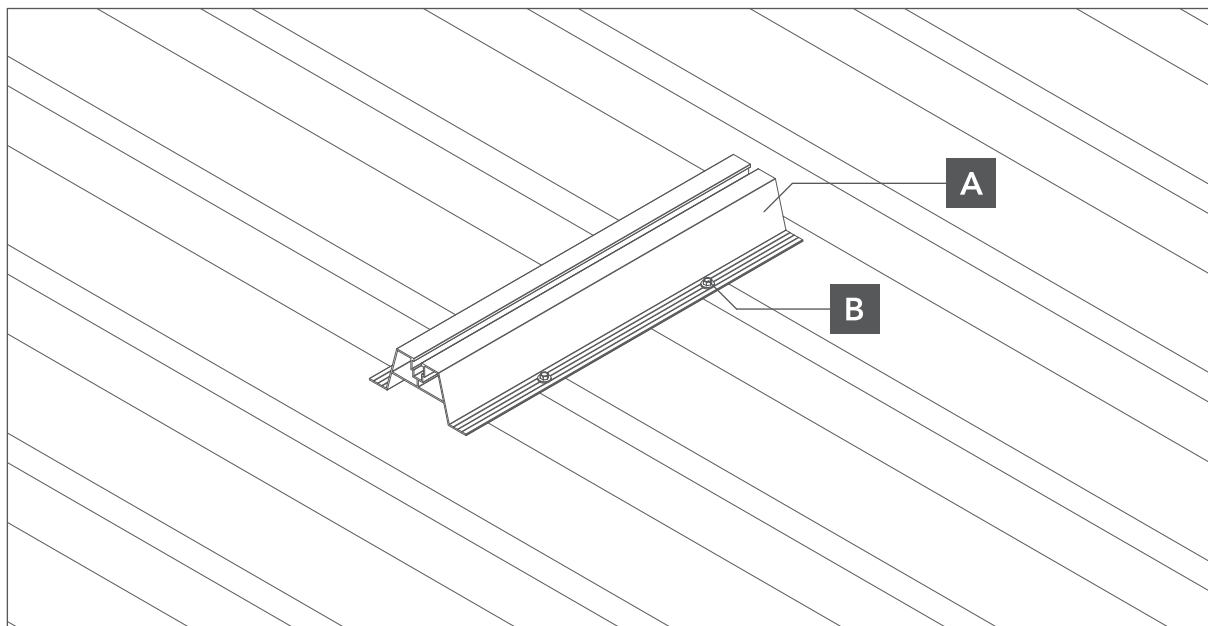

Fig. 4. fastening of the trapezoidal girders
- 3** Each trapezoidal girder should be fastened with at least 4 self-tapping screws with a tight thread (Fig. 4) to each trapezoidal girder.